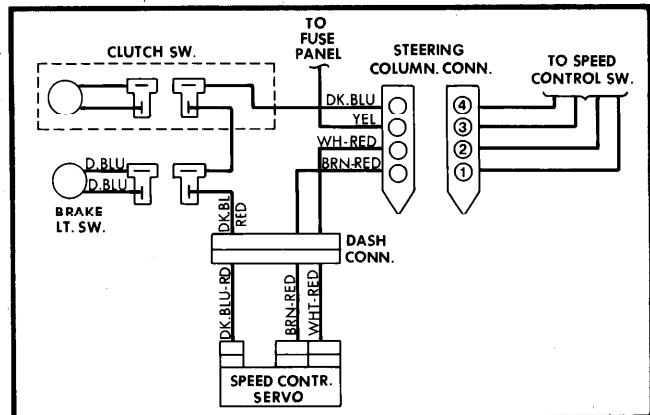

Fig. 2 Typical Wiring Diagram of Chrysler Corp. Speed Control System
1) Disconnect 4-wire connector at steering column. Connect a 12 volt positive source to terminal 3 in connector going to speed control switch. With switch in "ON" position, connect a test lamp between connector terminal 1 and ground. Lamp should light and then go out when speed set button is depressed. See Fig. 2.